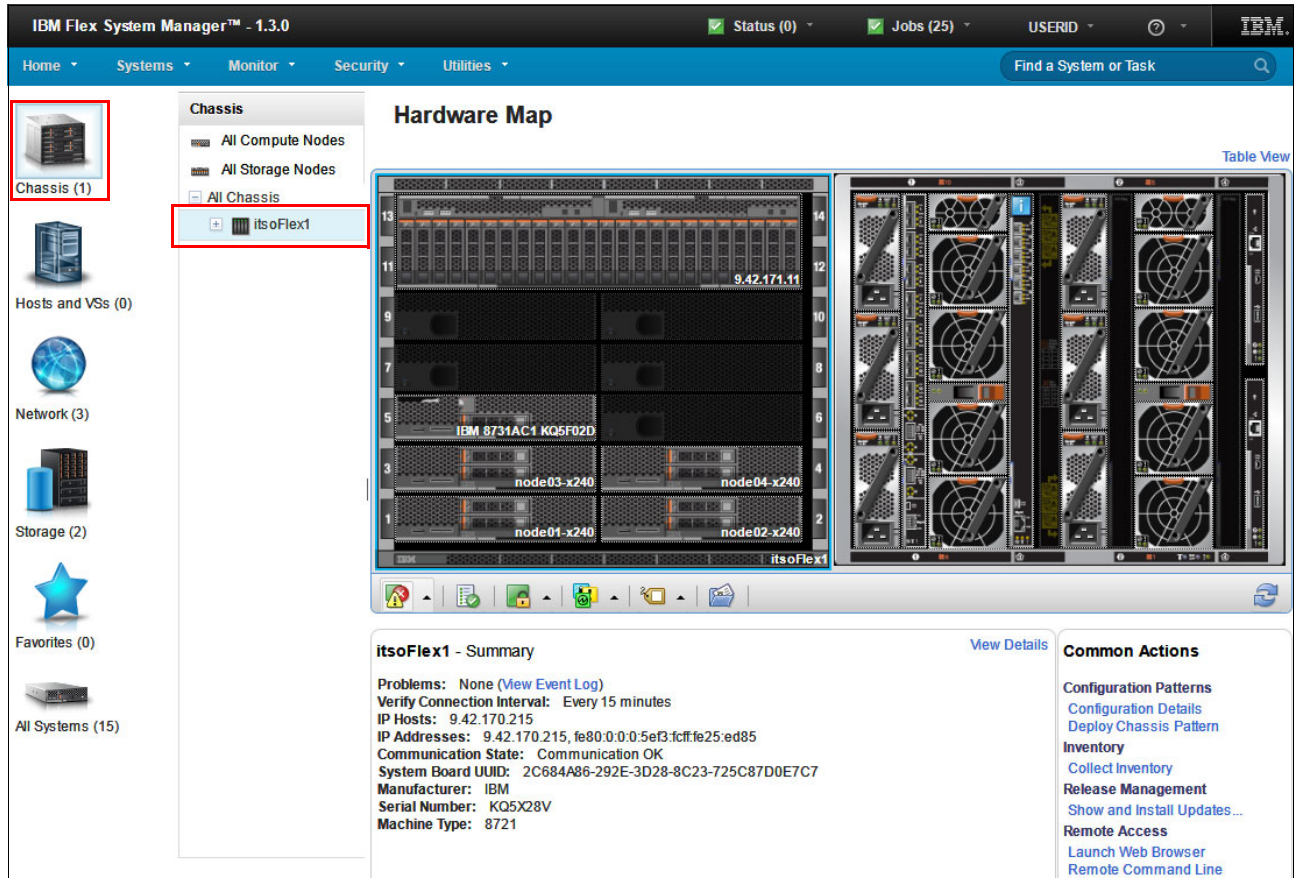

Figure 7-5 IBM FSM Explorer: Chassis Hardware Map
1. In the FSM Explorer dashboard (the default view when you open FSM Explorer from the Home window), click **Chassis** group in the upper-left corner, and then click *<chassis name>* to open the Chassis Map for the selected chassis, as shown in Figure 7-5.